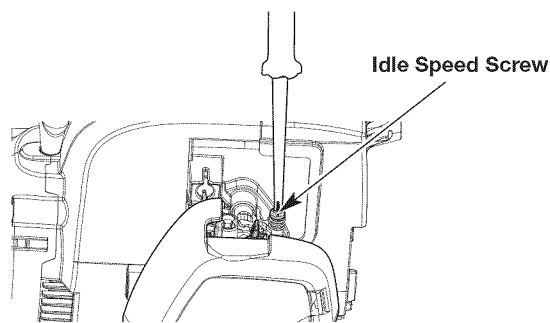

Fig. 17
2. Release the throttle control and let the engine idle. If the engine stops, use a small Phillips screwdriver to turn the idle speed screw clockwise, 1/8 of a turn at a time (as needed) until the engine idles smoothly (Fig. 17).
3. If the engine is idling too quickly, turn the idle speed screw counterclockwise, 1/8 of a turn at a time (as needed) to reduce the idle speed (Fig. 17).